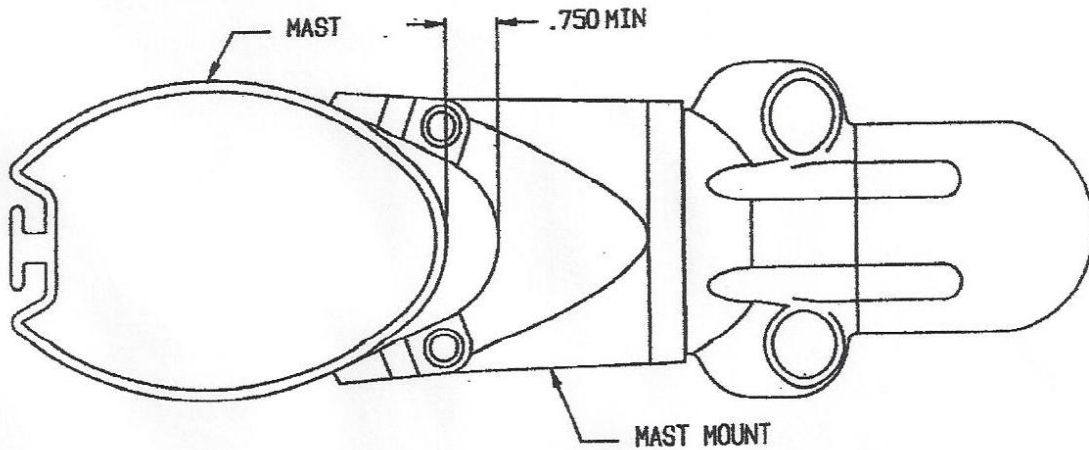

FIGURE 2
- 1) Hold mounting brackets against mast with a space of $\frac{3}{4}$ " between the mast and the Questus mount. Position Questus mount straight fore and aft and horizontal (adjust angle for mast rake if necessary). SEE FIGURE 2